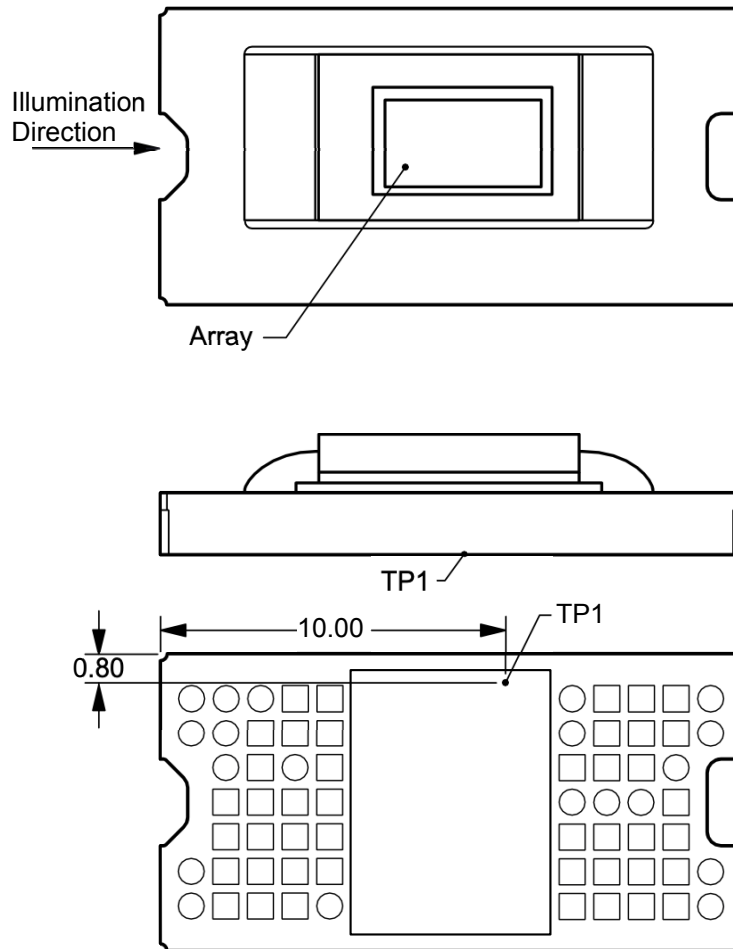

Figure 7-4. Thermocouple Location
Relationship between array temperature and the reference ceramic temperature (thermocouple location TP1 in Figure 7-4) is provided by the following equations.
- T_{CERAMIC} = measured ceramic temperature (TP1 location in Figure 7-4) (°C)